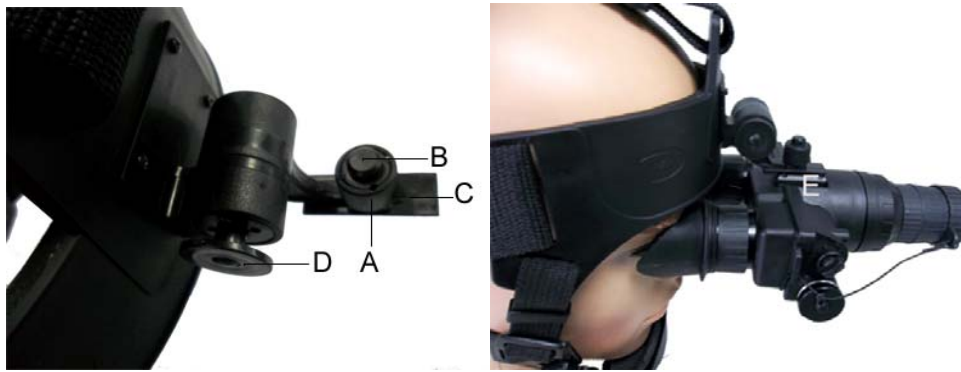

Figure01
1. Loosen the screw (A). Push down the button (B) and insert the mounting part (E) of the night vision device into the socket of the head mount (C). Then tighten the screw (A) after adjusting it to a good position you need. Now the device is fixated onto the head mount firmly.
2. Place the head mount with goggle onto your head. (as Figure01 shows)
3. The monocular head mount has a flip-up mechanism. Push the button (F) on the side of mount and lift the unit up until the unit reaches in the top position. When the device is placed in the top/up position it will turn off automatically.
4. Push the same button (F) to lower monocular to the viewing position. Turn the device on for continuation of the operation.